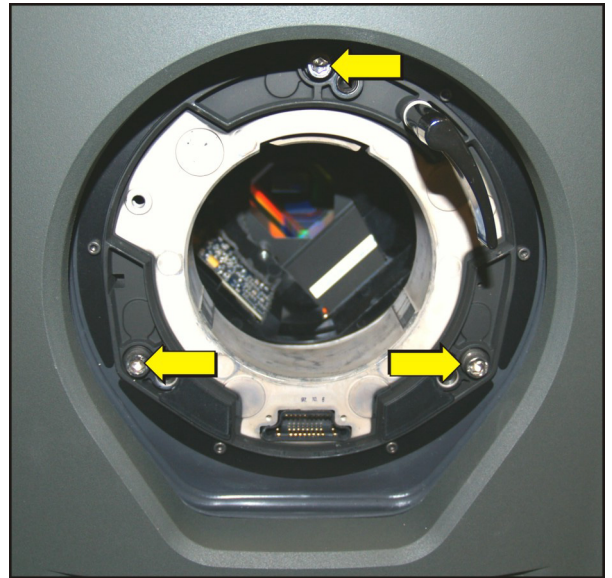

Figure 5-47 Lens Mount
8. Remove the three screws from the corners of the lens mount (**Figure 5-47**).